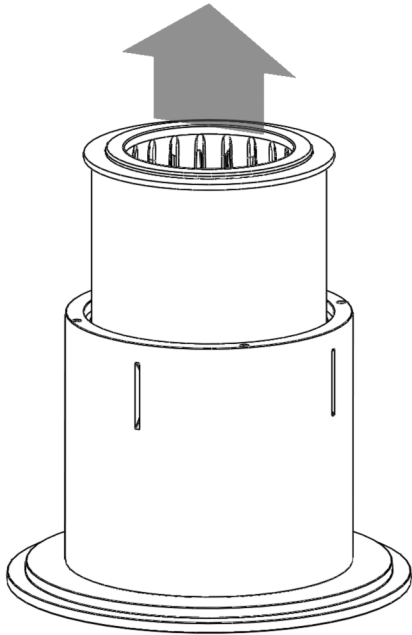

Figure 15 - Remove core and tube.
- Remove the core and tube from inside the liner as shown in Figure 15 below.